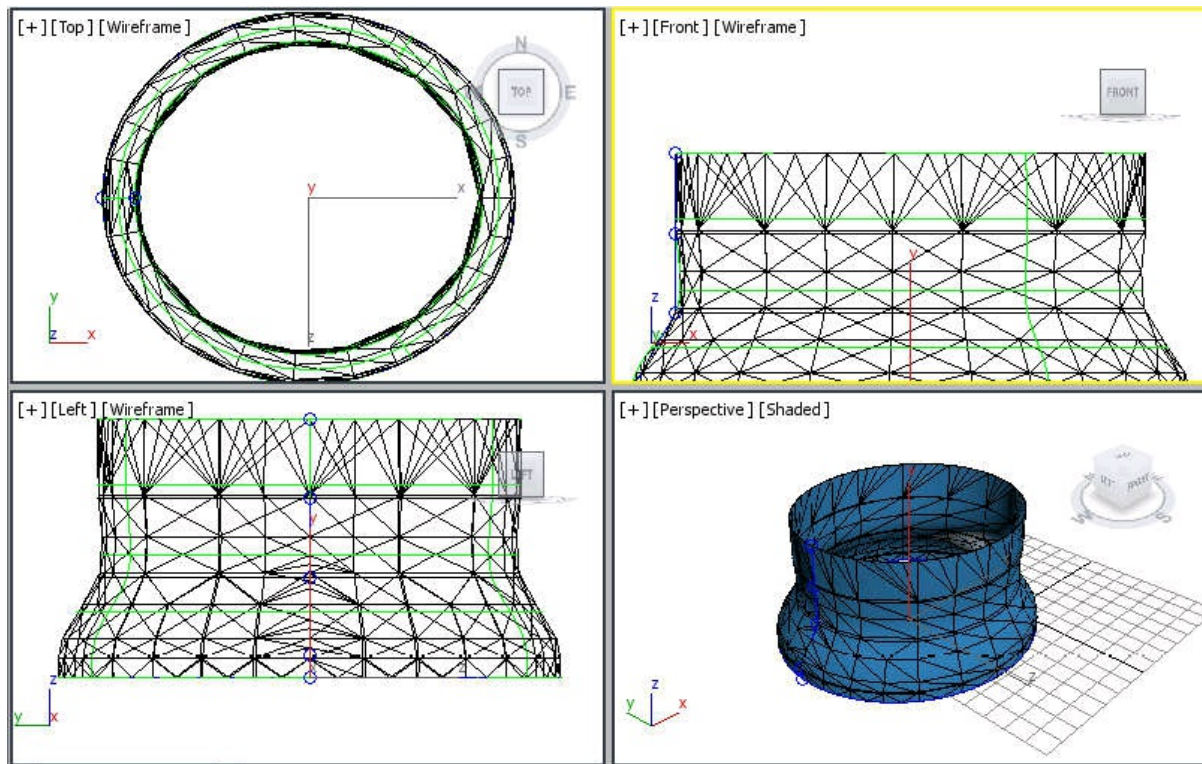

Figure 10-89 A NURBS surface created
3. Make sure the **General** rollout is expanded and choose the **NURBS Creation Toolbox** button; the **NURBS** toolbox is displayed. Now, choose the **Create U Loft Surface** button from the **Surfaces** section; the **U Loft Surface** rollout is displayed in the Modify panel. Next, move the cursor over *Circle001*; it turns blue. Now, click on it and then one-by-one click on *Circle002*, *003*, *004*, and *005* to add them into the U loft surface. Now, right-click to end the command. In the **U Loft Surface** rollout, select the **Flip Normals** check box. Next, right-click to exit the **U loft** command; a NURBS surface is created in the viewports, as shown in Figure 10-89.